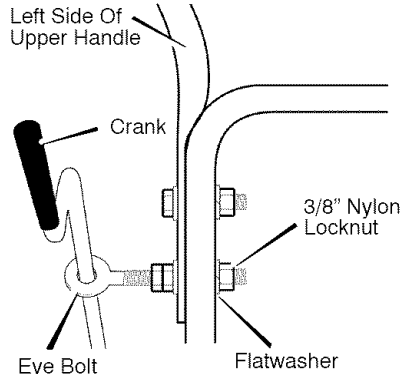

Figure 5
4. Remove the fasteners and the eye bolt from the lower holes of the lower handle. See Figure 5.